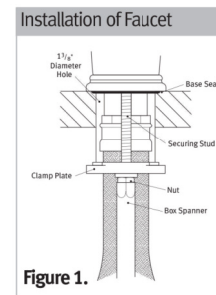

Figure 1.
U.4735X-2, U.4736L-2, U.4739-2, U.4741-2, U.4746-2, U.4747-2, U.4759-2, U.4761-2, U.4766-2, U.4768X-2, U.4769L-2, U.4770X-2, U.4771L-2, U4775X-2, U4776L-2 - Refer to Figures 1, 2, 2A, 3 & 4
- 6) From the underside of the counter-top, place the clamp plate on securing stud and using the box spanner supplied, put fixing nut in spanner and tighten until mixer is held firmly in position. See Figure 1.